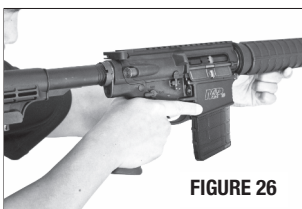

FIGURE 26
- Grasp firearm with one hand on handguard and other hand on the pistol grip with index finger resting along outside of trigger guard. Raise firearm and pull buttstock firmly into shoulder (FIGURE 26).